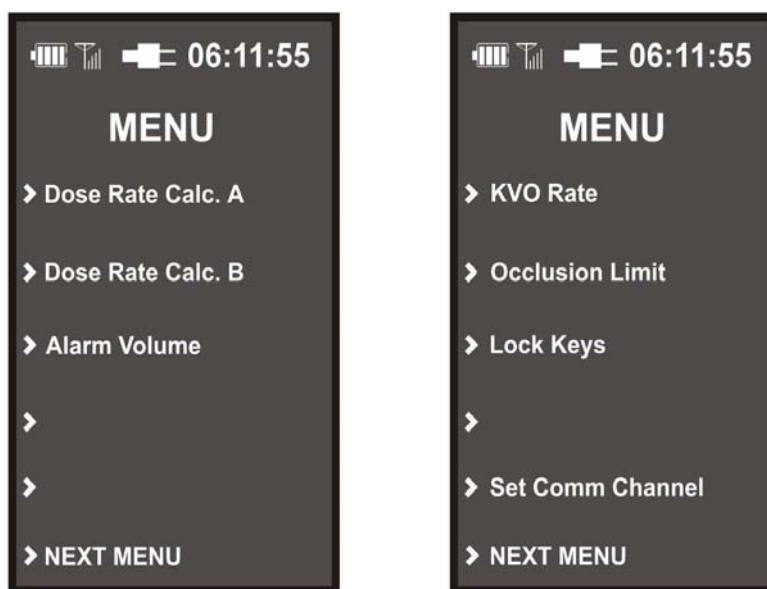

Figure 1-10. Special Features Setup Menu
1.3.6 Special Features Setup Menu. Pressing the MENU button brings up the Special Features Setup Menu (See Figure 1-10) to provide the operator with the ability to set the Dose Rate Calculation, adjust the Alarm Volume, set the KVO Rate, adjust the Occlusion Limit, and Lock Keys and Next Menu if additional options are installed. The Lock Key will not be displayed unless it has been enabled in the Service Mode. (Refer to 1125 Service Manual for additional details on the Service Mode.)